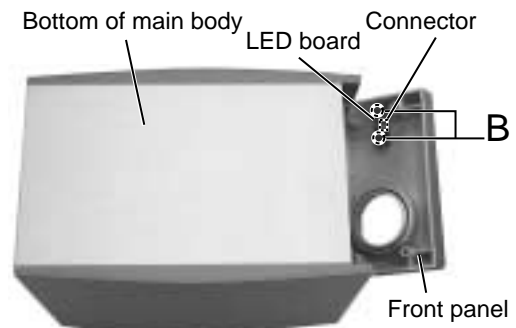

Fig.6
**■ Removing the LED board (See Fig.6)**